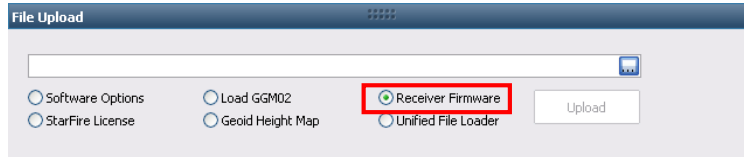

Figure 24: Receiver Firmware Option
58. Select *Receiver Firmware* on the *File Upload* window (see Figure 24).